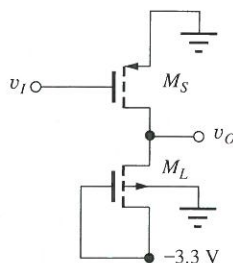

Figure P6.153
- 6.153. Design the transistors in the inverter of Fig. P6.153 so that $V_H = -0.33 \text{ V}$ and the power dissipation = 0.1 mW. Use the values in Table 6.5 on page 308.
- 6.158. Simulate the voltage transfer characteristic for the PMOS gate in Fig. P6.153, and compare the results to those of Prob. 6.153.
- 6.160. Simulate the delay of the PMOS gate in Fig. P6.153 with a load capacitance of 1 pF, and determine the rise time, fall time, and average propagation delay.